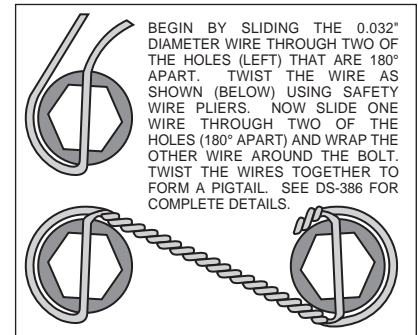
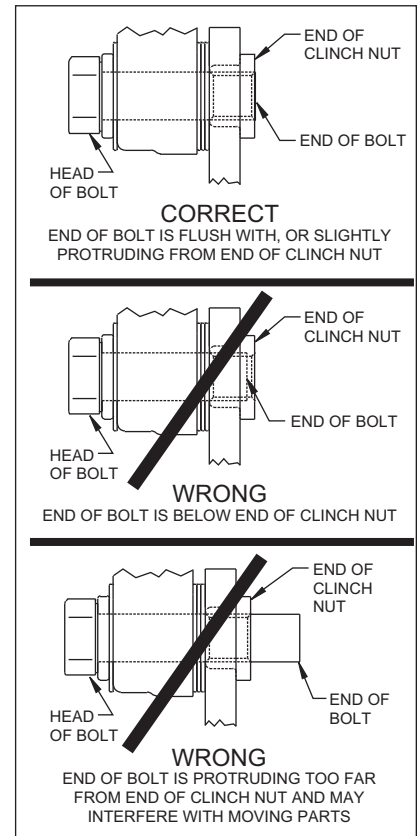

Figure 4. Safety Wire Diagram
Figure 5. Clinch Nut Engagement Diagram
- With the slot pointing upward and the mounting ears pointing towards the rear of the vehicle, install the caliper mounting bracket (1) to the housing flange using the stock Original Equipment Manufacturer (OEM) bolts and nuts. Stock OEM hex nuts that retain the bracket (1) should be on the wheel side of the bracket. Apply red *Loctite*® 271 to the stock OEM bolt threads and torque to OEM specifications. **NOTE:** Some brackets act as the bearing retainers, while others help locate the bearing in the axle housing flange. If the stock bearing plates are still on the axle, the caliper mounting brackets (1) should be located between the axle housing flange and the bearing retainer plate. Make sure the heads of the caliper mounting bracket insert nuts are FACING OUTWARD TOWARDS THE WHEEL.
- Bolt the hat (2) to the rotor (3) using washers (4) and bolts (5). Torque bolts (5) to 180 **in-lb**. Safety wire bolts (5) using standard 0.032 inch diameter stainless steel safety wire as shown in Figure 4. Please refer to Wilwood's data sheet DS-386 (available at [www.wilwood.com/pdf/ds386.pdf](http://www.wilwood.com/pdf/ds386.pdf)) for complete safety wire installation instructions.
- Align the correct hole pattern in the hat (2) with the stud pattern on the axle flange. **NOTE:** Some OEM and after market axles come with stud sizes larger than 0.50" diameter. Verify stud size and have a qualified machine shop drill the hats to the correct size. Slide the hat/rotor assembly (2 and 3) over the wheel studs and against the axle flange face.
- NOTE:** Please reference the caution statement at the beginning of the assembly instructions. WITH THE BLEED SCREWS POINTING UP, mount the caliper (6) over the rotor (3) and onto the caliper mounting bracket (1) using washers (7) and mounting bolts (8). View the rotor through the top opening of the caliper. The rotor should be aligned in the center of the caliper. If not, adjust the caliper by using 0.032 inch shim washers (9), placing them between the caliper mounting bracket (1) and the caliper (6). Add as many shim washers (9) as necessary to achieve the correct alignment. **NOTE:** The end of the bolt must be flush with or slightly protruding from the head of the clinch nut. See Figure 5. Place spare shims (9) between washer and caliper mounting ear to achieve the proper mounting fastener configuration. Always use the same amount of shims on both the top and bottom caliper mounting bolts (8). Apply red *Loctite*® 271 to the mounting bolt threads (8), torque bolts to 30 ft-lb. Safety wire the caliper mounting bolts (8).
- Position the Wilwood disc brake pads (10) into the caliper (6) and fasten with cotter pin (11). Steel backing plate side of brake pad should face the caliper pistons.